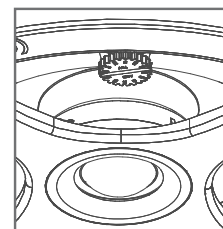

FIGURE 20:
16. Determine the proper wattage setting for each speaker in the installation and set each speaker's transformer tap selector on the front of the speaker accordingly (see figure 20).